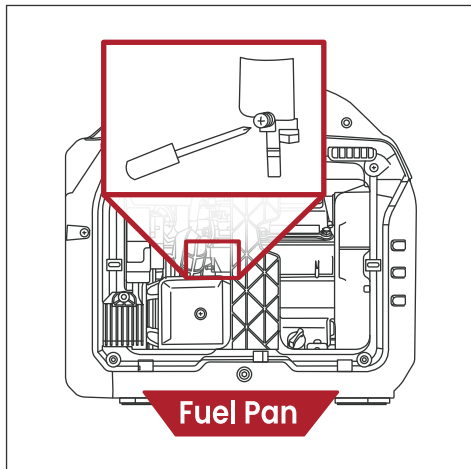

Fig.26
- 4 Loosen the float bowl drain screw until fuel is seen draining from the float bowl (see **Fig.26**).